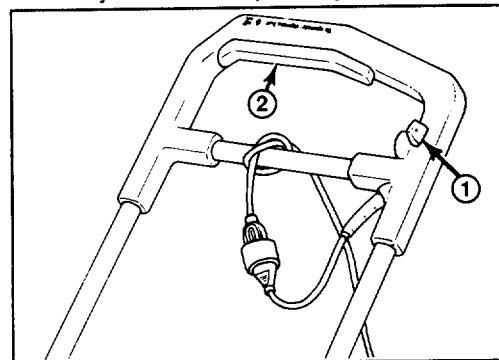

Figure 4
8. To prevent disconnection of snowthrower cord from extension cord during operation, tie extension cord to upper metal tube before connecting to snowthrower cord; refer to page 4, Figure 4 for proper procedures.
2. Before connecting the extension cord to the snowthrower cord, tie the extension cord to the upper metal tube of the snowthrower as shown in Fig. 4. This helps prevent cord separation during operation.
To start rotor, squeeze the control bar. To stop rotor, release the control bar (Fig. 4).